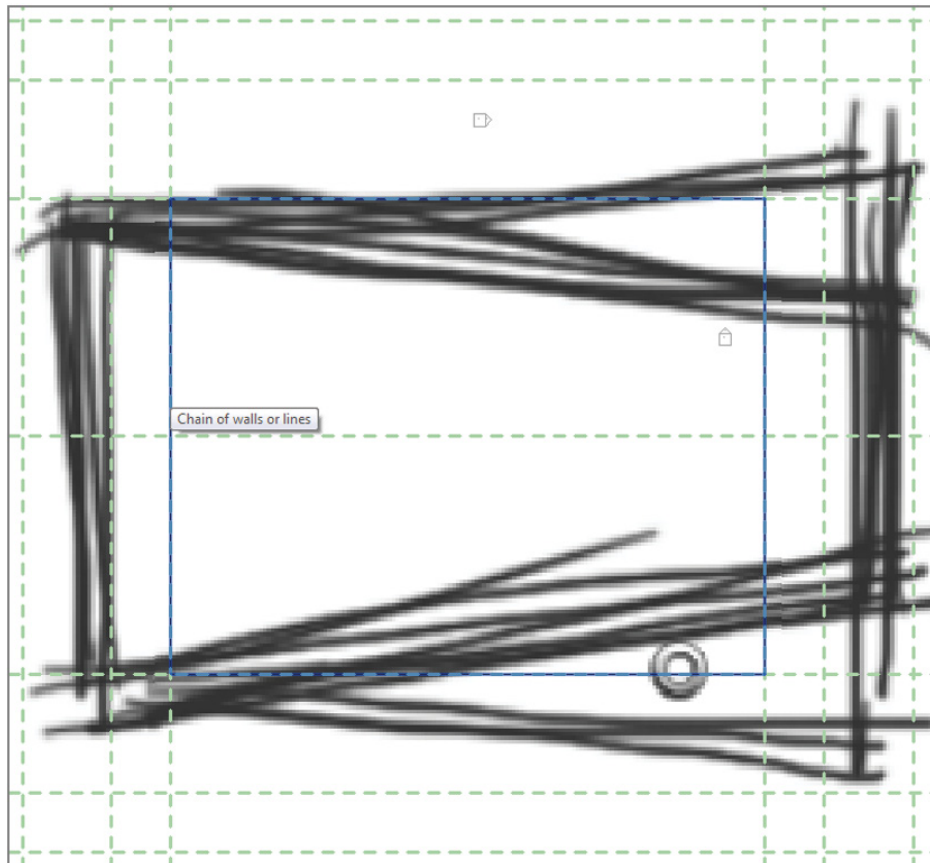

FIGURE 7.19 Sketching the second rectangle
2. Using the same workflow, sketch another rectangle, as shown in Figure 7.19. Then select the rectangle and click Create Form, as you did with the previous rectangle.